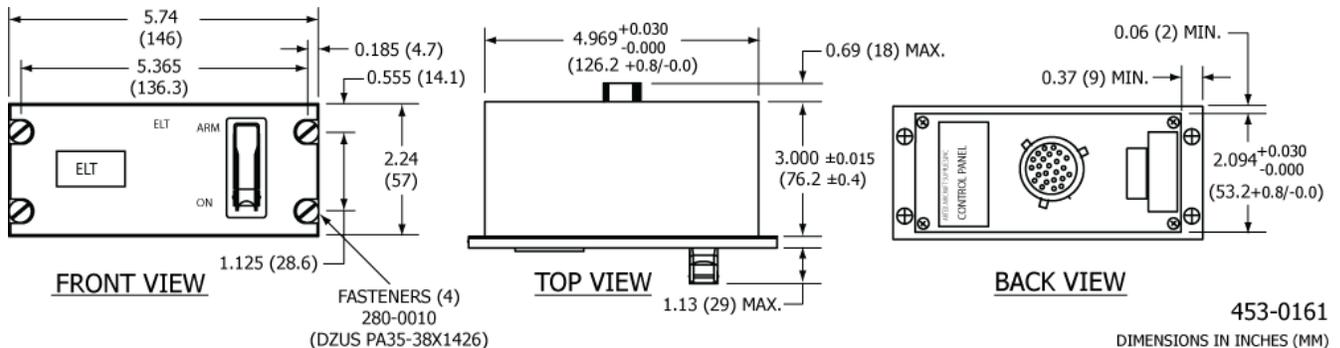

Figure 33 Cockpit Remote Switch Panel Outline and Dimensions
- 2) The panel assembly requires a space approximately 5.74 x 2.24 in. (146 x 57 mm) on the panel or console surface, with a depth of 3.00 in. (77 mm), excluding room for the harness connection. See Figure 33 Cockpit Remote Switch Panel Outline and Dimensions.
- 1) Provide an opening in the instrument panel or other mounting location which meets the dimensional requirements shown in Figure 33 Cockpit Remote Switch Panel Outline and Dimensions on page 75.
- 2) Mount Dzus rails on the sides of the opening, if necessary. See Figure 33 Cockpit Remote Switch Panel Outline and Dimensions on page 75 for rail center line dimensions.